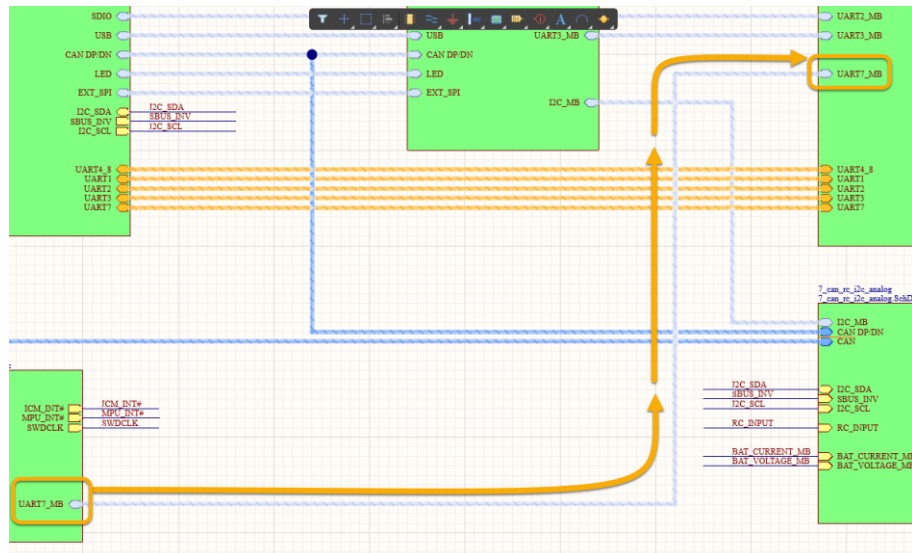

Figure 21. First part of Signal Harness
- a) Start drawing the Signal Harness at the existing Sheet Entry `UART7_MB` from Sheet Symbol `8_imu&debug_conn.SchDoc`, as shown in Figure 21.
- b) Draw the Signal Harness to sheet symbol `6_uart_esc_i2c` following the arrow, similar to what is shown in Figure 21.